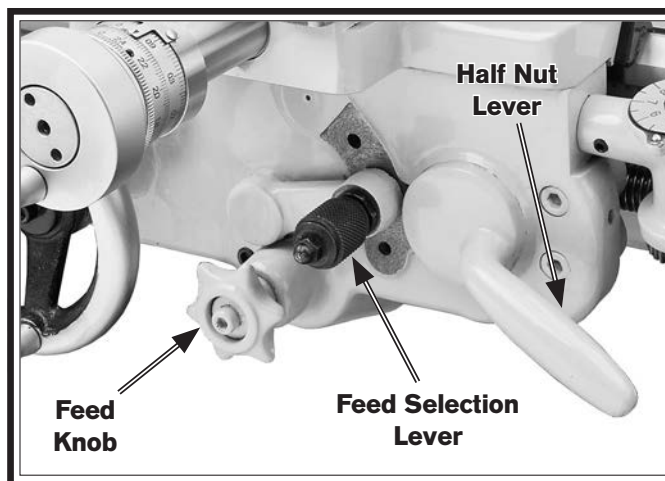

Figure 55. Apron power feed controls.
7. Seat the locking pin of the feed selection lever on the apron in the upper hole to select carriage power feed or in the lower hole for cross slide power feed (see **Figure 55**).
The feed knob shown in **Figure 55** is used to engage and disengage the feed gear inside the apron with the leadscrew.